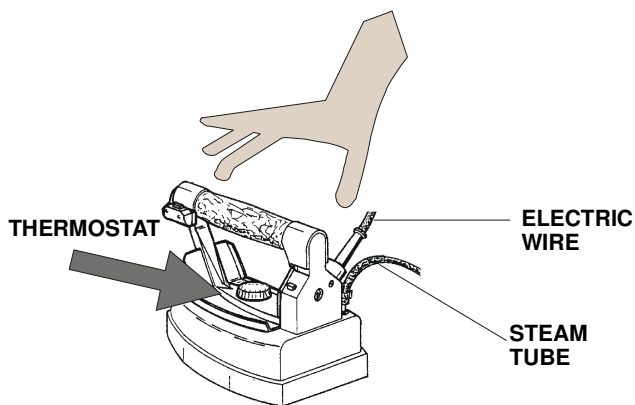

Fig. 5
3. Switch on the boiler (fig. 2 B). Five minutes later switch on the iron (fig. 2 C) and adjust the thermostat (fig. 5) on "cotton".
1. Run the iron on garments, pressing the iron micro switch for steam. For a better result, set the thermostat (fig. 5) on "cotton".
4. For dry ironing it is possible to adjust the thermostat (fig. 5) on different positions according to the type of fabric (look at garment label). For steam ironing, set the thermostat on "cotton" or "flax".
3. steam tube and iron cable once they seem spoilt (fig. 5).